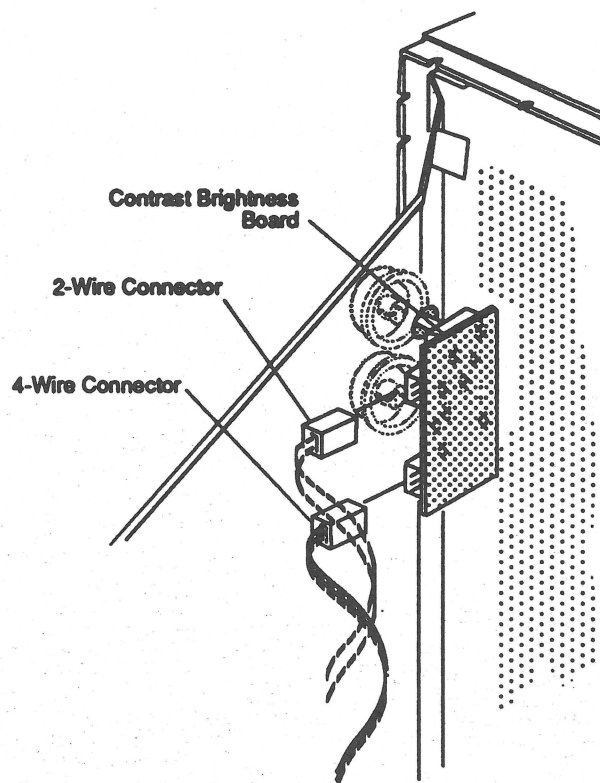

FIGURE 8
4. Disconnect the following connectors from the contrast brightness board (**Figure 8**):